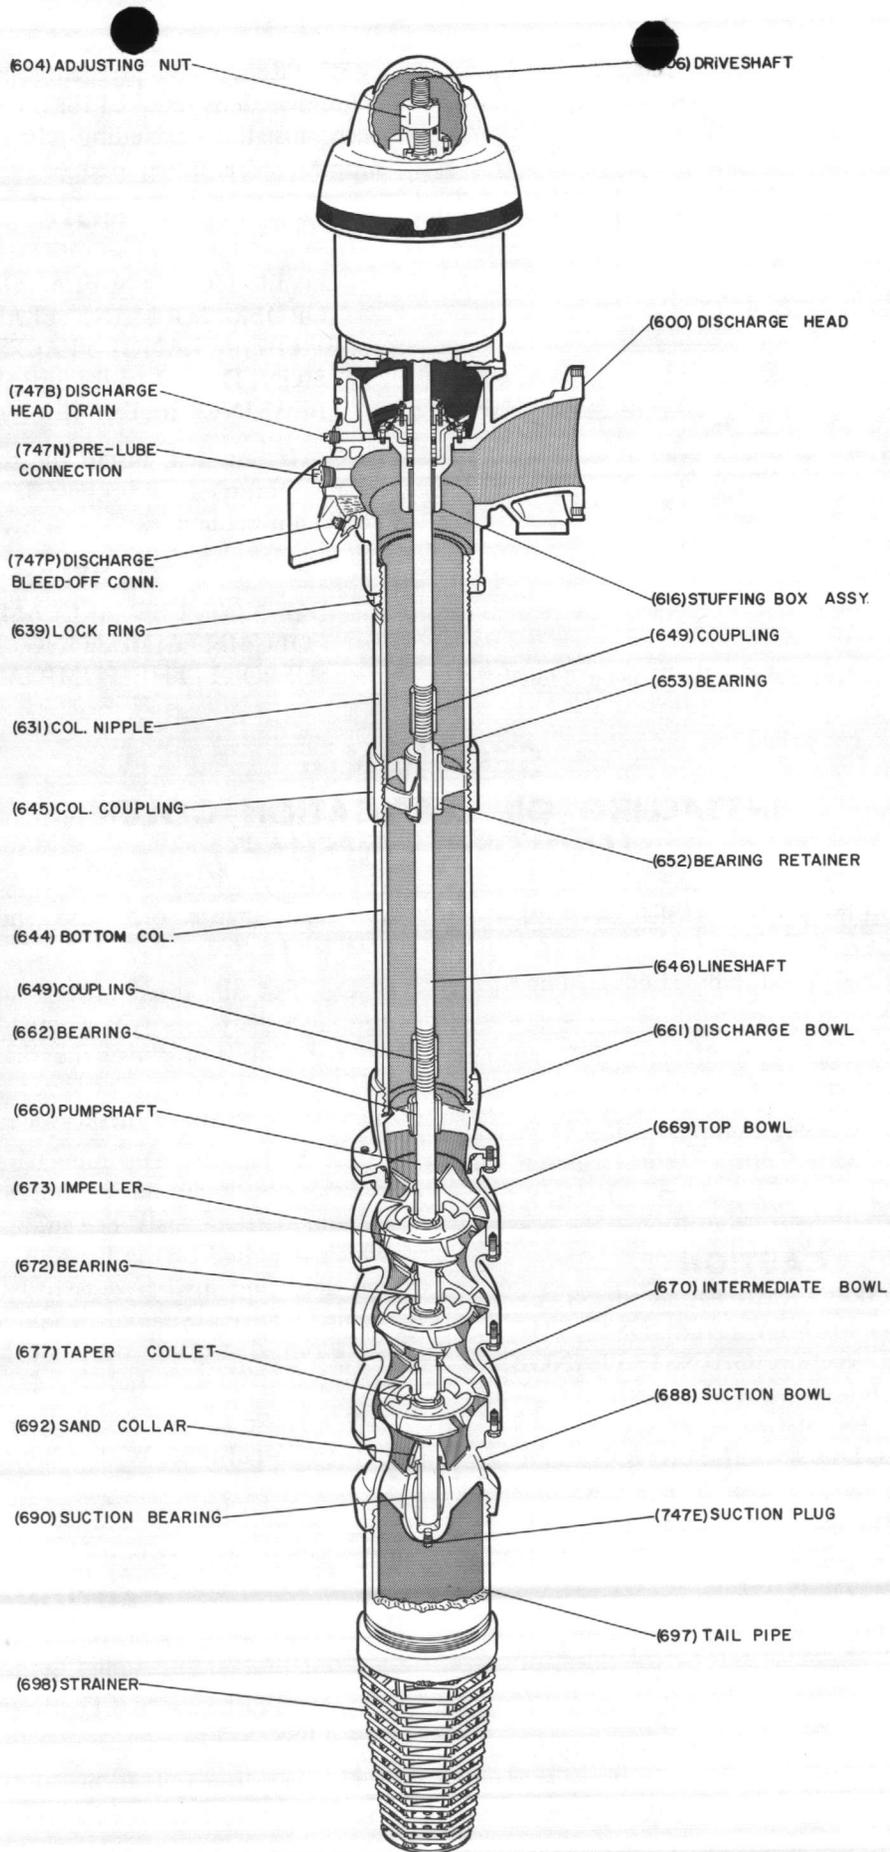

Figure 5-1 Product Lubrication Pump
C. If provided, install tail pipe (697). Place an elevator clamp just below the tail pipe threads. Attach a sling to the clamp and to hoist hook. Hoist over the well or sump and attach strainer (698) if provided. Lower tail pipe until clamp rests firmly on the supporting timbers. (SEE FIGURES 5-1 AND 6-1).
D. Attach and secure an elevator clamp just below and firmly butted against the top intermediate bowl flange (670). Attach a sling to the clamp and pass the loop end of the sling over the hoist hook. Guide the pump suction to prevent bumping or dragging and hoist the assembly over the well or sump opening.
G. If a suction strainer (698) is provided, assemble to suction bowl.
J. Place a cover over bowl assembly to prevent entrance of dirt or other foreign matter. Check to see that pump shaft coupling (649) is clean.
### 5-1. INSTALLING PRODUCT LUBRICATION COLUMN (SEE FIGURE 5-1).